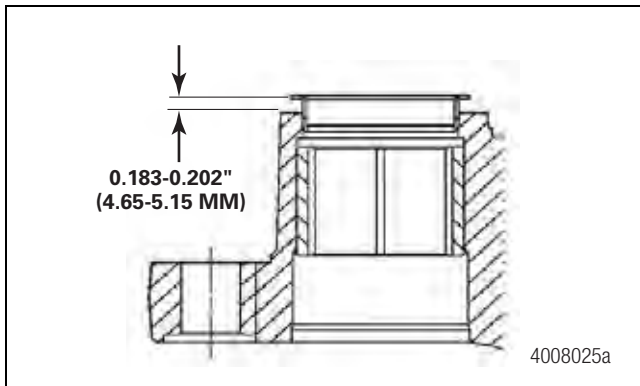

Figure 5.39
3. Use the applicable parts of Meritor tool MST 1000 to draw the retainer into the slide pin bore until the flat face of the retainer is 0.183-0.202-inch (4.65-5.15 mm) from the end of the slide pin bore. Figure 5.39.